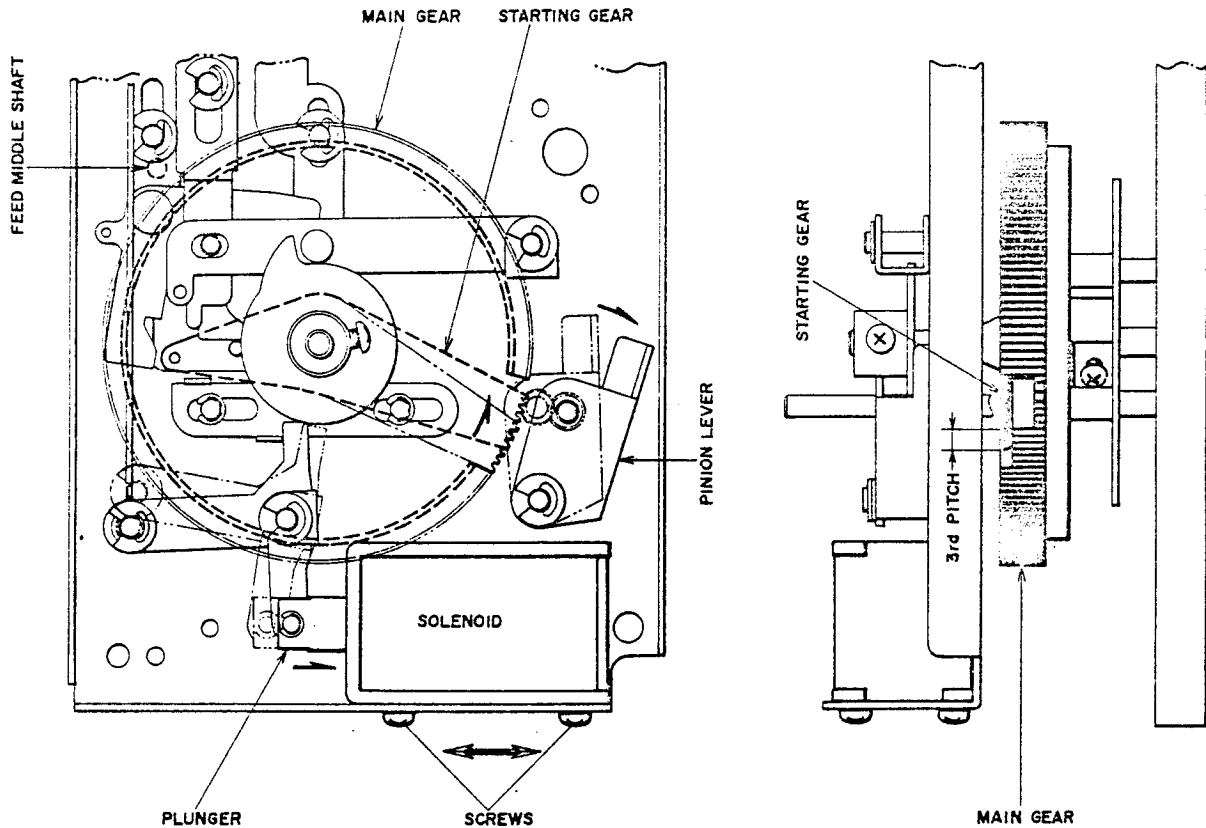

Fig. 8
**NOTE:** When installing the sub-chassis, as shown in Fig. 8, make sure that the Feed Middle Shaft of the main chassis is inserted through the hole of the sub-chassis, and then tighten the various sub-chassis fixation screws.